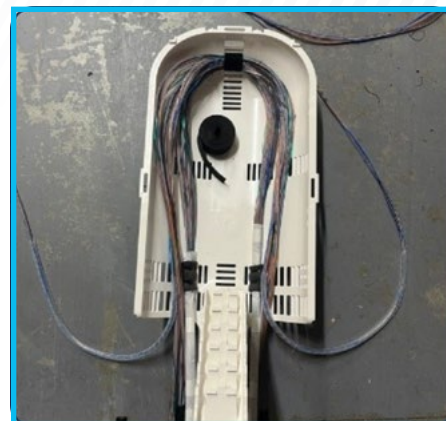

Figure 38
5. Separate the first unit bundle on each side of the cable. Add 320mm of spiral wrap to each side of the fibre unit bundle [\[figure 38\]](#).